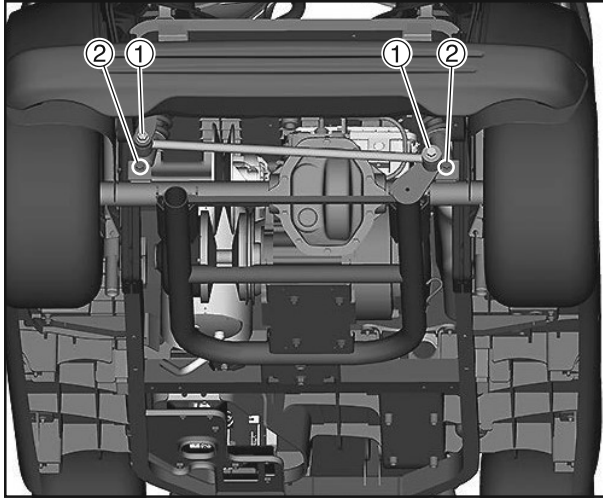

Figure 6-36
21. Remove the rear suspension connecting rod bolts (**Figure 6-36, (1)**). Remove connecting rod.
22. Remove the rear shock lower mounting bolts (**Figure 6-36, (2)**).